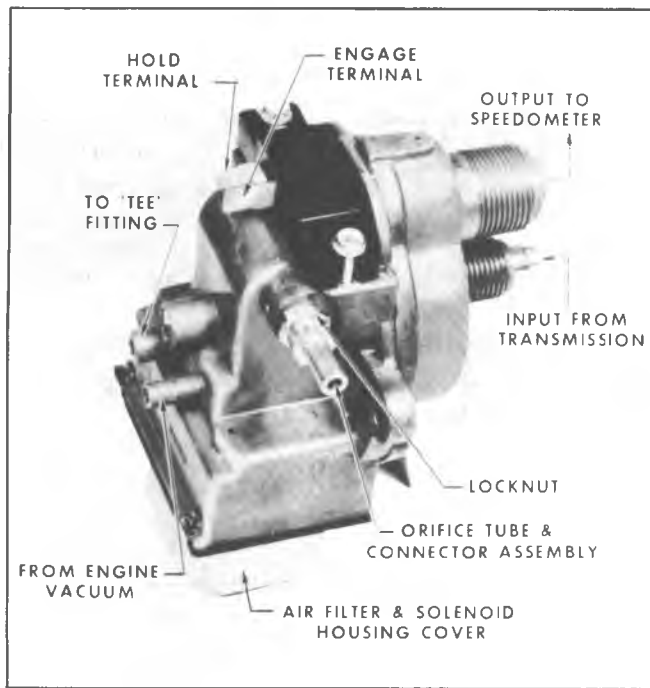

Fig. 2C--Regulator Unit
2. The Regulator (fig. 2C) is mounted in the speedometer cable line. It is a combination speed sensing device and control unit. When engaged, it senses vehicle speed and positions the Servo Unit to maintain the selected speed.
If the vehicle cruises at a speed a few mph above or below the engagement speed, this error can be corrected with a simple adjustment of the orifice tube in the regulator (see fig. 2C).